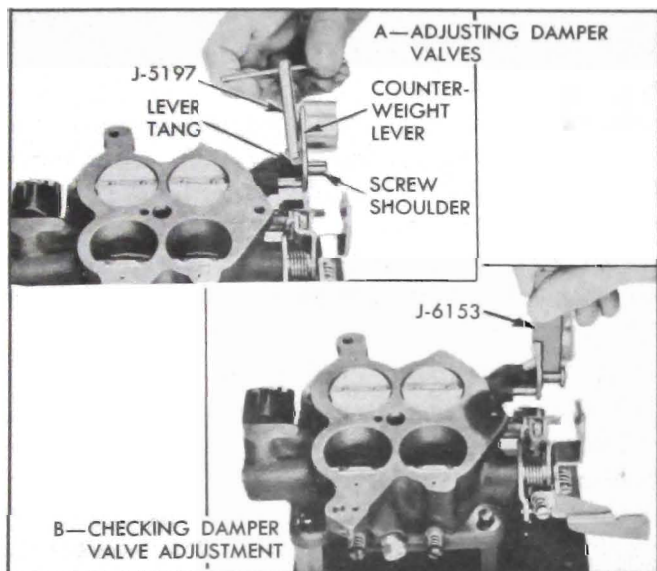

Figure 3-89—Damper Valve Adjustment
1. Install auxiliary throttle shaft. Install fast idle cam attaching screw without fast idle cam, then check vertical measurement from shoulder of screw to top edge of counterweight lever using number one ($5\frac{1}{64}$) end of Gauge J-6153. See figure 3-89, (View B).
2. If counterweight lever position is not correct, bend lever tang as required to obtain this measurement using Tool J-5197. See figure 3-89, (View A).
4. Measure from shoulder of screw to top edge of counterweight lever using number two ($5\frac{3}{64}$) end of Gauge J-6153. See figure 3-89, (View B).